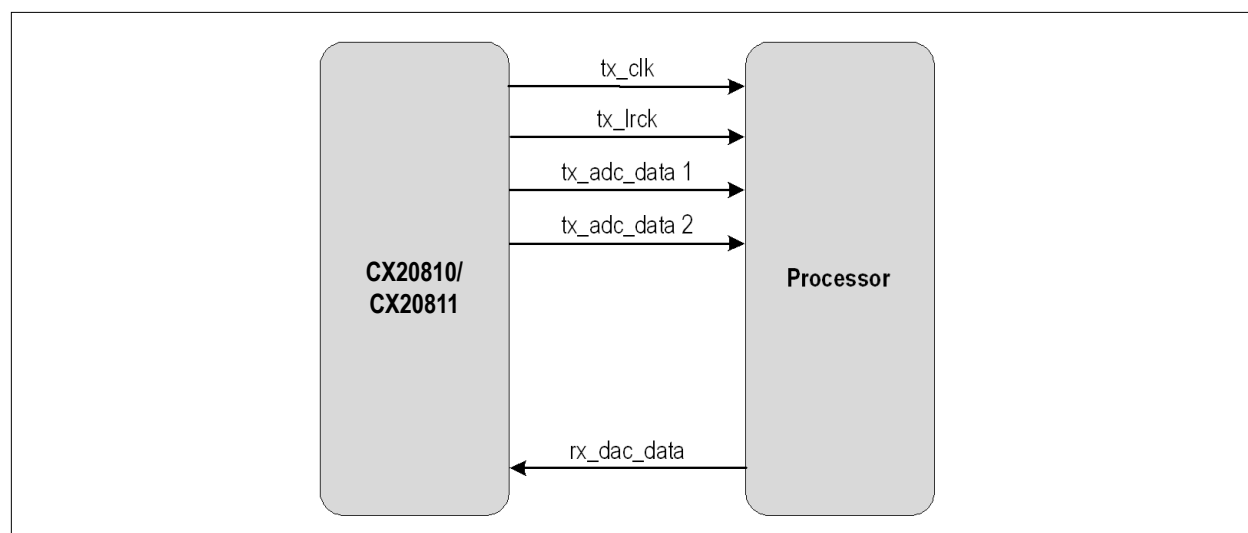

Figure 91: Five-Wire Master Mode with ADC BCLK, LRCK
- Figure 91 on page 169 provides the five-wire master mode with ADC BCLK/LRCLK